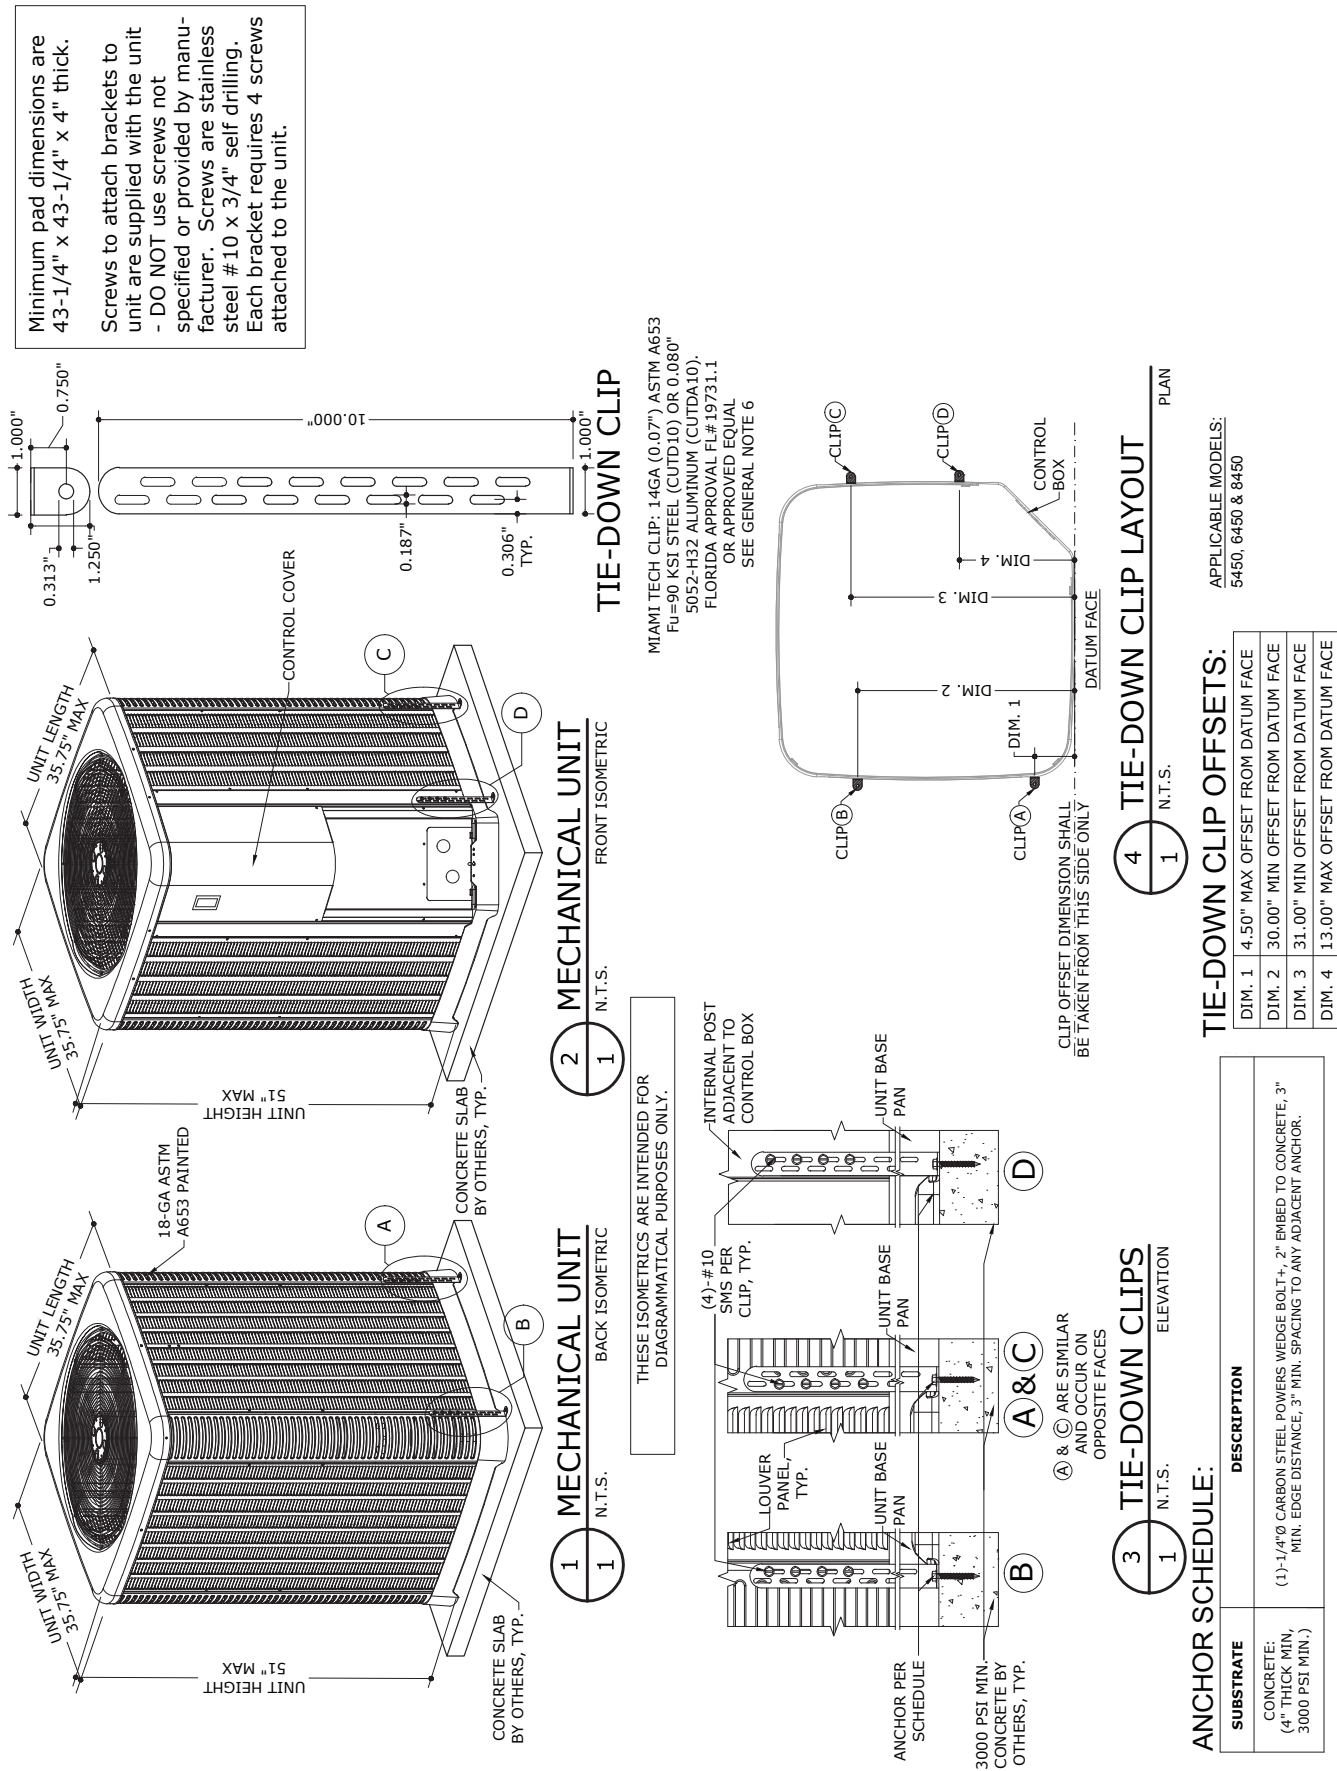

Fig. 3: Hurricane Tie Down Instructions
- For high wind installation requirements, refer to the Fig. 3 on page 8.